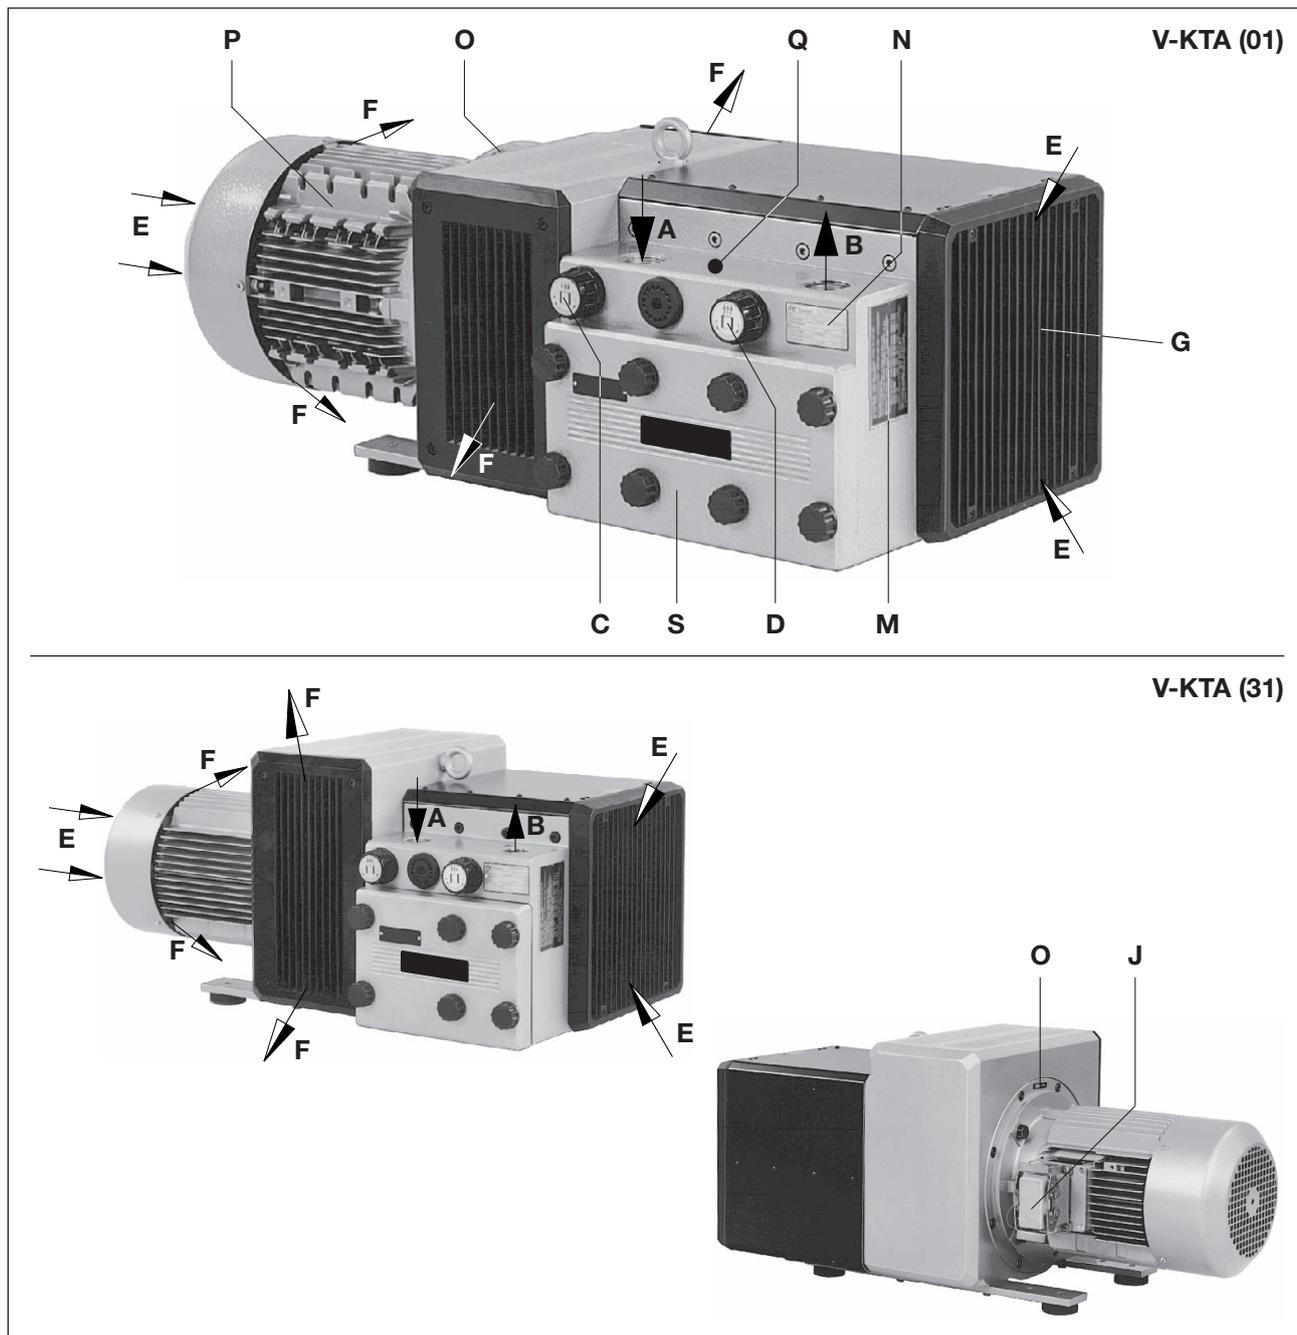

Fig. 2 Pressure vacuum pump V-KTR 100 / V-KTR 140
All models have nominal capacities of 60, 80, 100 and 140 m³/hr operating at 50 cycles. The pressure and vacuum limits (bar) are indicated on the data plate (Fig. 2/N). The tables showing capacity against pressure and vacuum can be seen in data sheets D 452 and D 453.
The filter housing (Fig. 2/S) should be easily accessible.
The cooling air inlets (Fig. 2/E) and the cooling air outlets (Fig. 2/F) must be at least 30 cm away from adjacent walls. Cooling air coming out must not be sucked in again..
or maintenance work there must be a minimum of 40 cm in front of the filter housing (Fig. 2/S) and the inlet grating (Fig. 2/G).
- a) Vacuum connection at (Fig. 2/A) and pressure connection at (Fig. 2/B).
The required pressure and vacuum ranges can be set with the pressure regulating valve (Fig. 2/D) and the vacuum regulating valve (Fig. 2/C) as shown on the symbol plate attached to the rotary knob.
- a) The motor's electrical data is given on the data plate (Fig. 2/N) or on the motor data plate. The motors comply with DIN EN 60034 and are in protection class IP 55 and insulation class F. The appropriate connection diagram is located in the motor's terminal box (not for the plug connection version). Compare the motor data with the data of the existing mains network (current type, voltage, network frequency, permitted current value).
- b) Connect the motor via plug-connector (Fig. 2/J) if fitted or via the motor protection switch (for safety reasons, a motor protection switch is required and the connecting cable must be installed via a cable fitting to provide strain relief). We recommend using motor protection switches with delayed switch off, depending on possible excess current. Temporary excess current can occur when the machine is started cold.
When the machine is at operating temperature the surface temperatures on the components (Fig. 2/ Q) may go above 70°C. You must avoid touching the hot surfaces (marked with warning plates).
The desiccant bags in the filter housing (Fig. 2/S) must be removed before initial start-up.
- ▷ The drive shaft direction of rotation is shown by the rotation direction arrow (Fig. 2/O) on the motor flange.